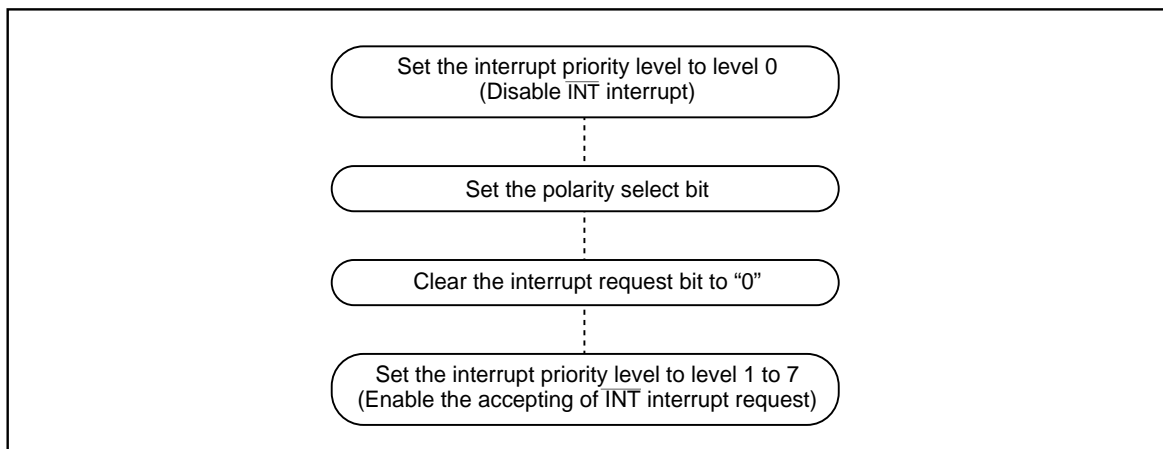

Figure 27.2 Switching condition of $\overline{\text{INT}}$ interrupt request
- When the polarity of the INT0 to INT5 pins is changed, the interrupt request bit is sometimes set to "1". After changing the polarity, set the interrupt request bit to "0". Figure 27.2 shows the procedure for changing the $\overline{\text{INT}}$ interrupt generate factor.